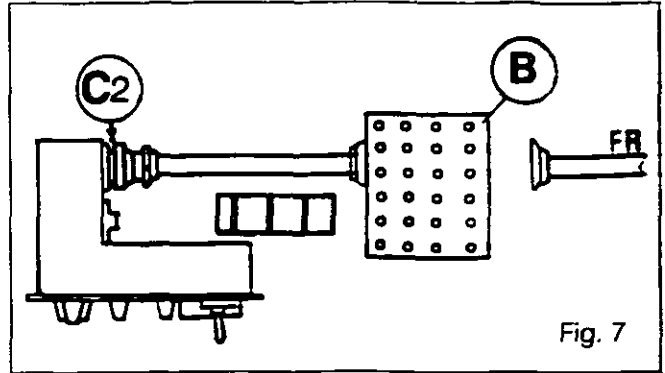

Fig. 7
Disconnect calculator and tractor harness (FR). Connect tester (B) to connector (C2) (see Fig. 7)
Connect tester (B) to connector (C2) (Fig. 7).